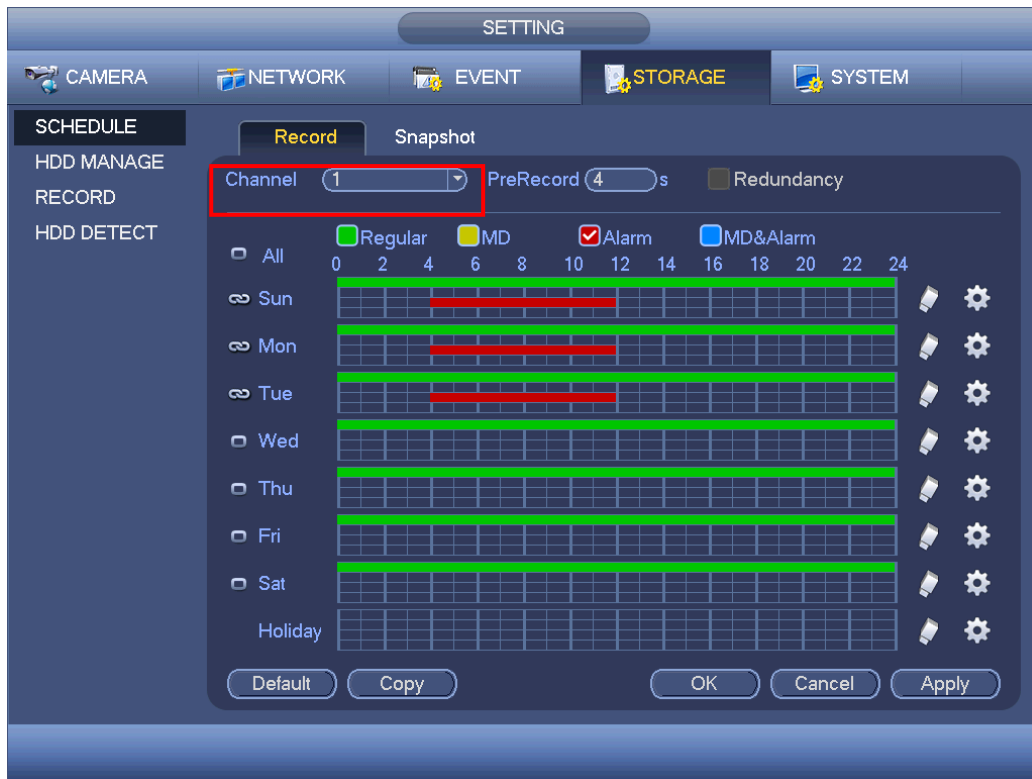

Figure 4-178
- In main menu, from Setting->Camera->Encode->Schedule interface, please enable snapshot function. See interface on the right of Figure 4-178.